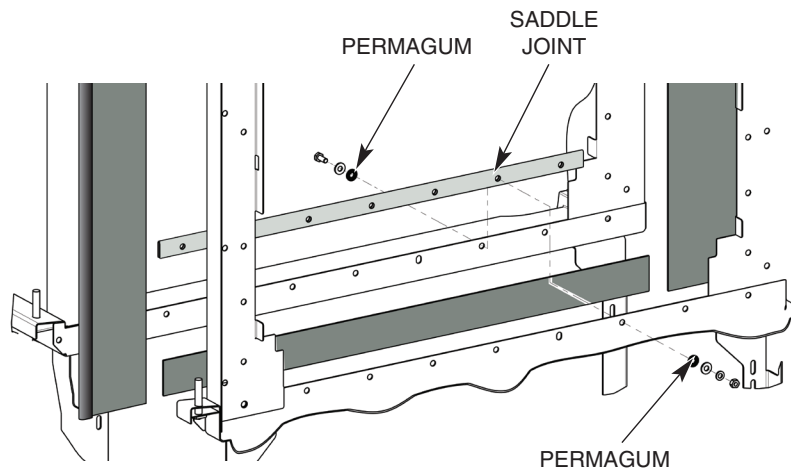

Fig. 14
4. Use Permagum on insides of washers on both sides to make an adequate seal (Fig. 14). You may have to use a C-clamp on the saddle to get the hardware started. Bolt the saddle joint to the bottom tank flanges with seven long bolts, washers, lock washers, and nuts provided.